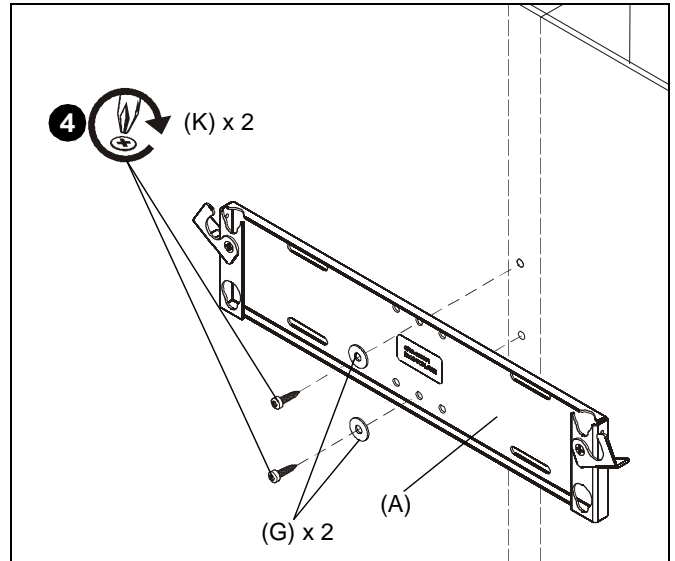

Figure 6
4. Use two #10 x 1 1/2" Phillips head screws (K) and #10 washers (G) to secure speaker bracket (A) to wall. (See Figure 6)